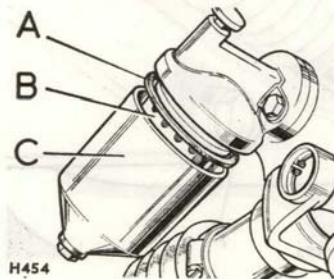

Fig. 32 Engine oil filter
- (7) Inspect the front engine mountings. The rubber bushes should be free from oil or grease and the mounting bolts tight.
- (8) Check the oil filter adaptor for leaks, and the securing bolts for tightness. The joint washer should be renewed if necessary. Ensure that the bolt at the bottom of the filter container is tight and that there is no oil leak from the large rubber washer (Fig. 32).
- (9) Check the tension of the fan and generator belts and adjust if necessary. See para. 103.
- (10) Ensure that the engine sump drain plug is tight.
- (11) *(To be carried out by a vehicle mechanic)*